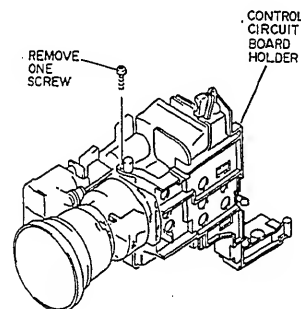

Fig. 2-101
1. Remove one (1) screw holding the control circuit board holder. (See Fig. 2-101)